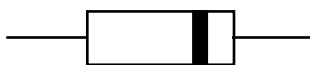

Figure 11
e. Mention **ONE** actuator used in the circuit. _____ (1)
f. Figure 11 shows an illustration of a diode.
i. Label the leads of the diode on Figure 11. (1)